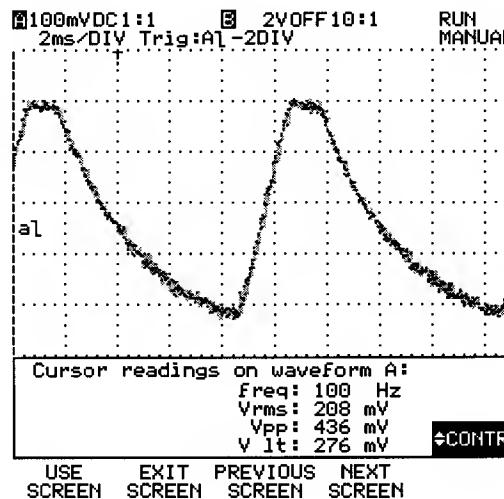

Figure 2 Sonopuls 464 switched on.
- Switch on the unit and see figure 2 for waveform with the Sonopuls 464 switched on.